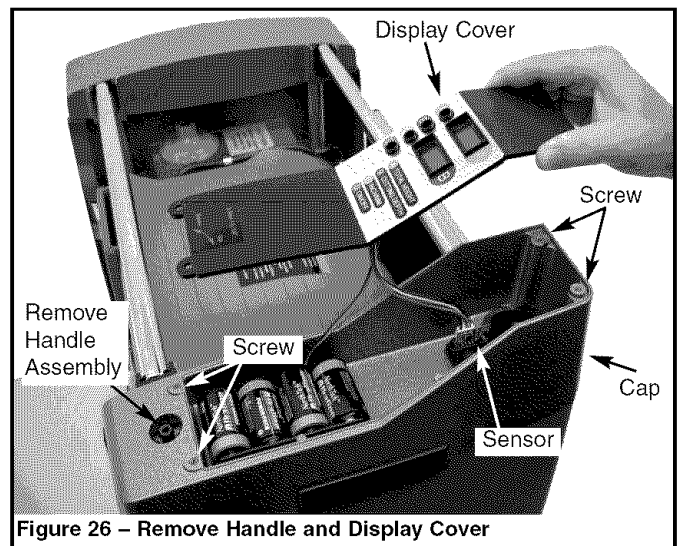

Figure 26 – Remove Handle and Display Cover
- Remove the plug, bolt and handle assembly. Remove the four (4) screws from the display cover. Loosen the bolt and remove sensor from its bracket. Place display cover back on top of the cap. See Figure 26.